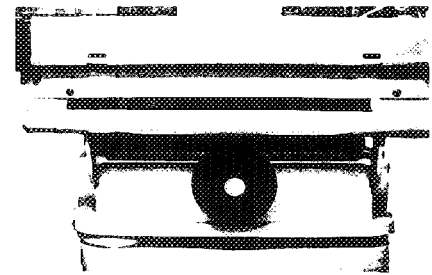

FIGURE 4.11A CHECKING THE BASSINET TILT CONTROL (VHA ONLY)
- a. Turn the Bassinet Tilt Control clockwise (Figure 4.11A) until the Bassinet Foot End is fully raised and comes to a stopl.